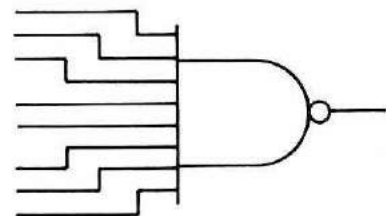

Fig. 24.
2) The 8-input "NAND". With this gate we find that all 8 inputs must be at logic 1 for the output to be at logic 0 (ground). If any of the inputs is at ground, the output will stay at logic 1 (5 volts). See Fig. 24 for the logic symbol of the 8-input "NAND".